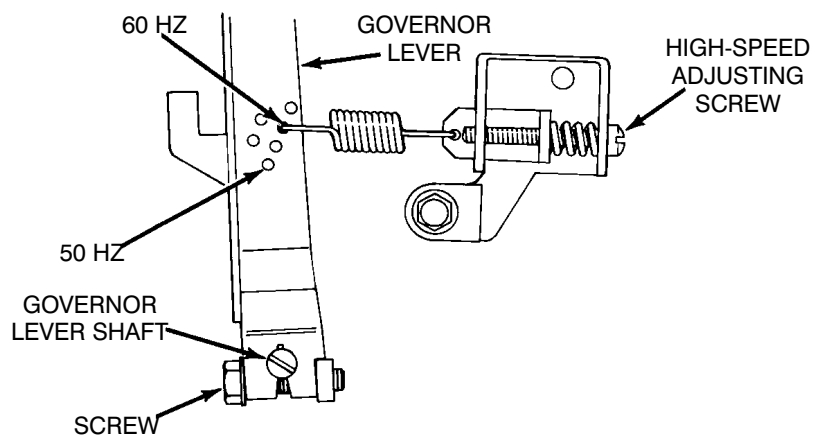

FIGURE 6-9. GOVERNOR/THROTTLE ADJUSTMENTS, GH170 AND GH280 ENGINES
1. Check the governor linkage for binding or excessive looseness. Check the springs for bending or damage and straighten or replace as needed. Make sure the springs are attached to the correct mounting hole where applicable (Figure 6-9).
2. Loosen the screw at the lower end of the governor lever (Figure 6-9).